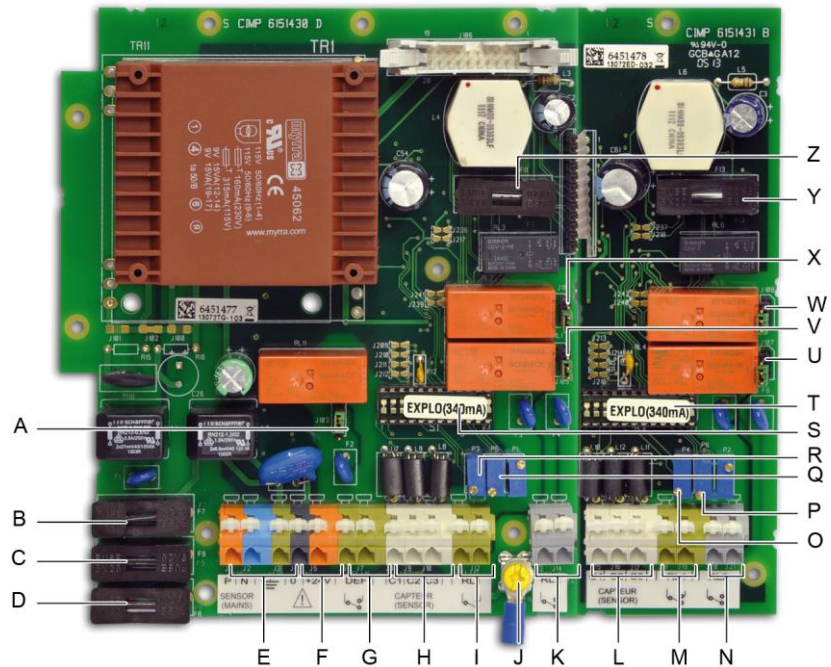

Figure 4: Internal view.
P.	Access to the zero and sensitivity settings (Figure 4, ref. O to R).
The ground terminal (yellow) (Figure 4, ref. J) is indicated with the following symbol: .
The sector power supply must be wired to the two terminals marked P (orange) and N (blue) (Figure 4, ref. E) on the 12 point terminal block for the power supply card; also see the wiring example on page 11. Protection is provided by fuses F8 and F9 (160 mA/250 VAC) (Figure 4, ref. C and ref. D).
Protection is provided by fuses F9 and F8 (315mA/250 VAC) (Figure 4, ref. C and ref. D).
Must be connected to the terminals marked 0 (grey) and +24V (orange) on the 12 point terminal block for the power supply card (Figure 4, ref. F) as indicated by the wiring example on page 11. Protection is provided by fuse F7 (2A/250 VAC) (Figure 4, ref. B).
- A programming circuit (Explo 340 mA or 4-20 mA) will be inserted on the mounting by the manufacturer (Figure 4, ref. S and T).
The relay contacts can be used "normally open" (NO) or "normally closed" (NC) by flipping the corresponding switch (Figure 4, ref. U or V for *AL1* alarms and references W and X for *AL2* alarms).